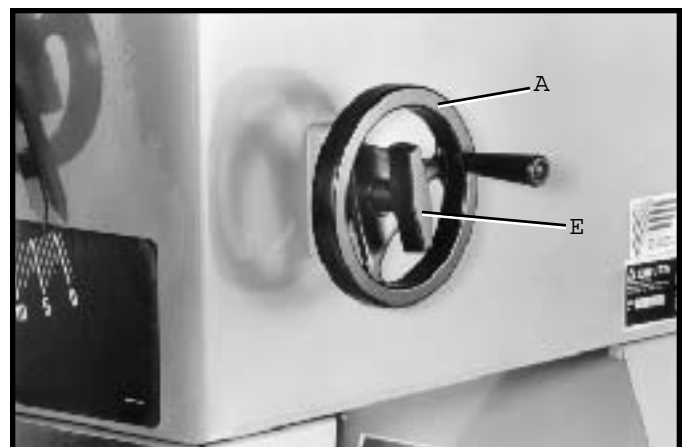

Fig. 11
2 Thread locking lever (E) Fig. 11, onto shaft.
3 Fig. 11, illustrates the blade tilting handwheel (A) and locking lever (E) assembled to the saw.